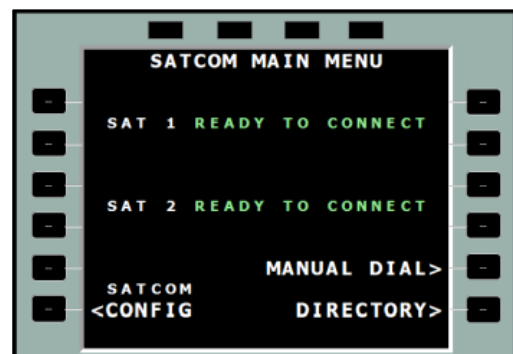

Figure 7-13: MCDU - SATCOM Main Menu - Channel released
- The SATCOM MAIN MENU SAT 1/2 status will return to "READY TO CONNECT" once the channel has been released (Figure 7-13).